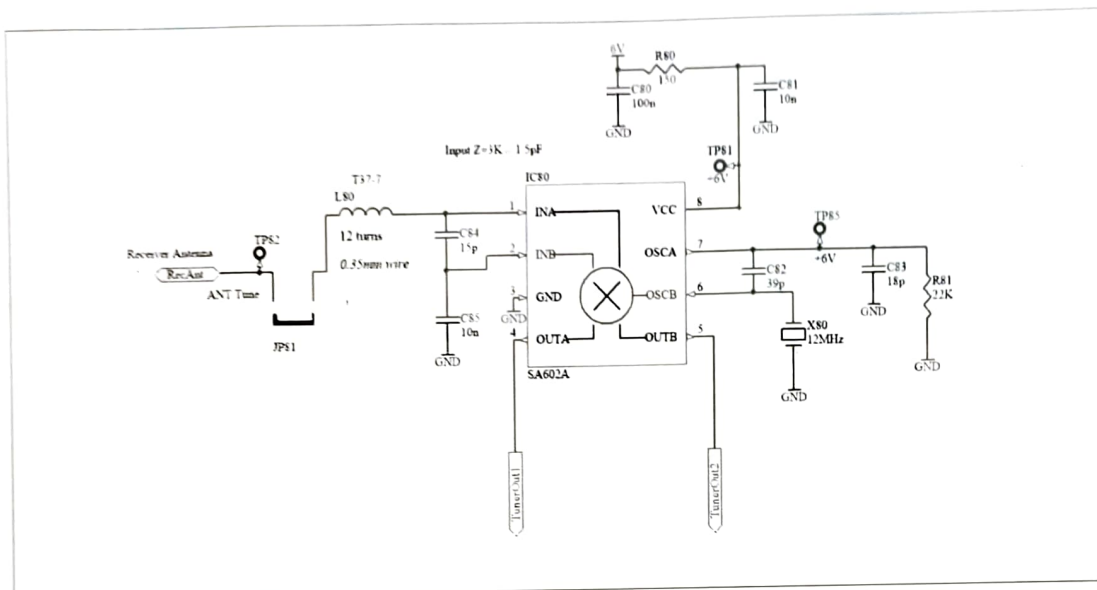

Figure 4: Receiver mixer schematic diagram.
1. Install and solder IC80, the receiver mixer. Make sure that pin 1 gets installed into the rectangular shaped pad on the PCB. Note that all other pads are oval shaped. This mixer converts 27.000 MHz signal to 15.000 MHz. The pin OSC_B of the mixer chip has a negative input resistance at high frequencies, if small capacitors (C82 and C83) are connected at pins OSC_B and OSC_E . When a quartz crystal resonator at 12.000 MHz is connected to this pin as shown in Fig. 4, an oscillator at 12.000 MHz is obtained. ✓